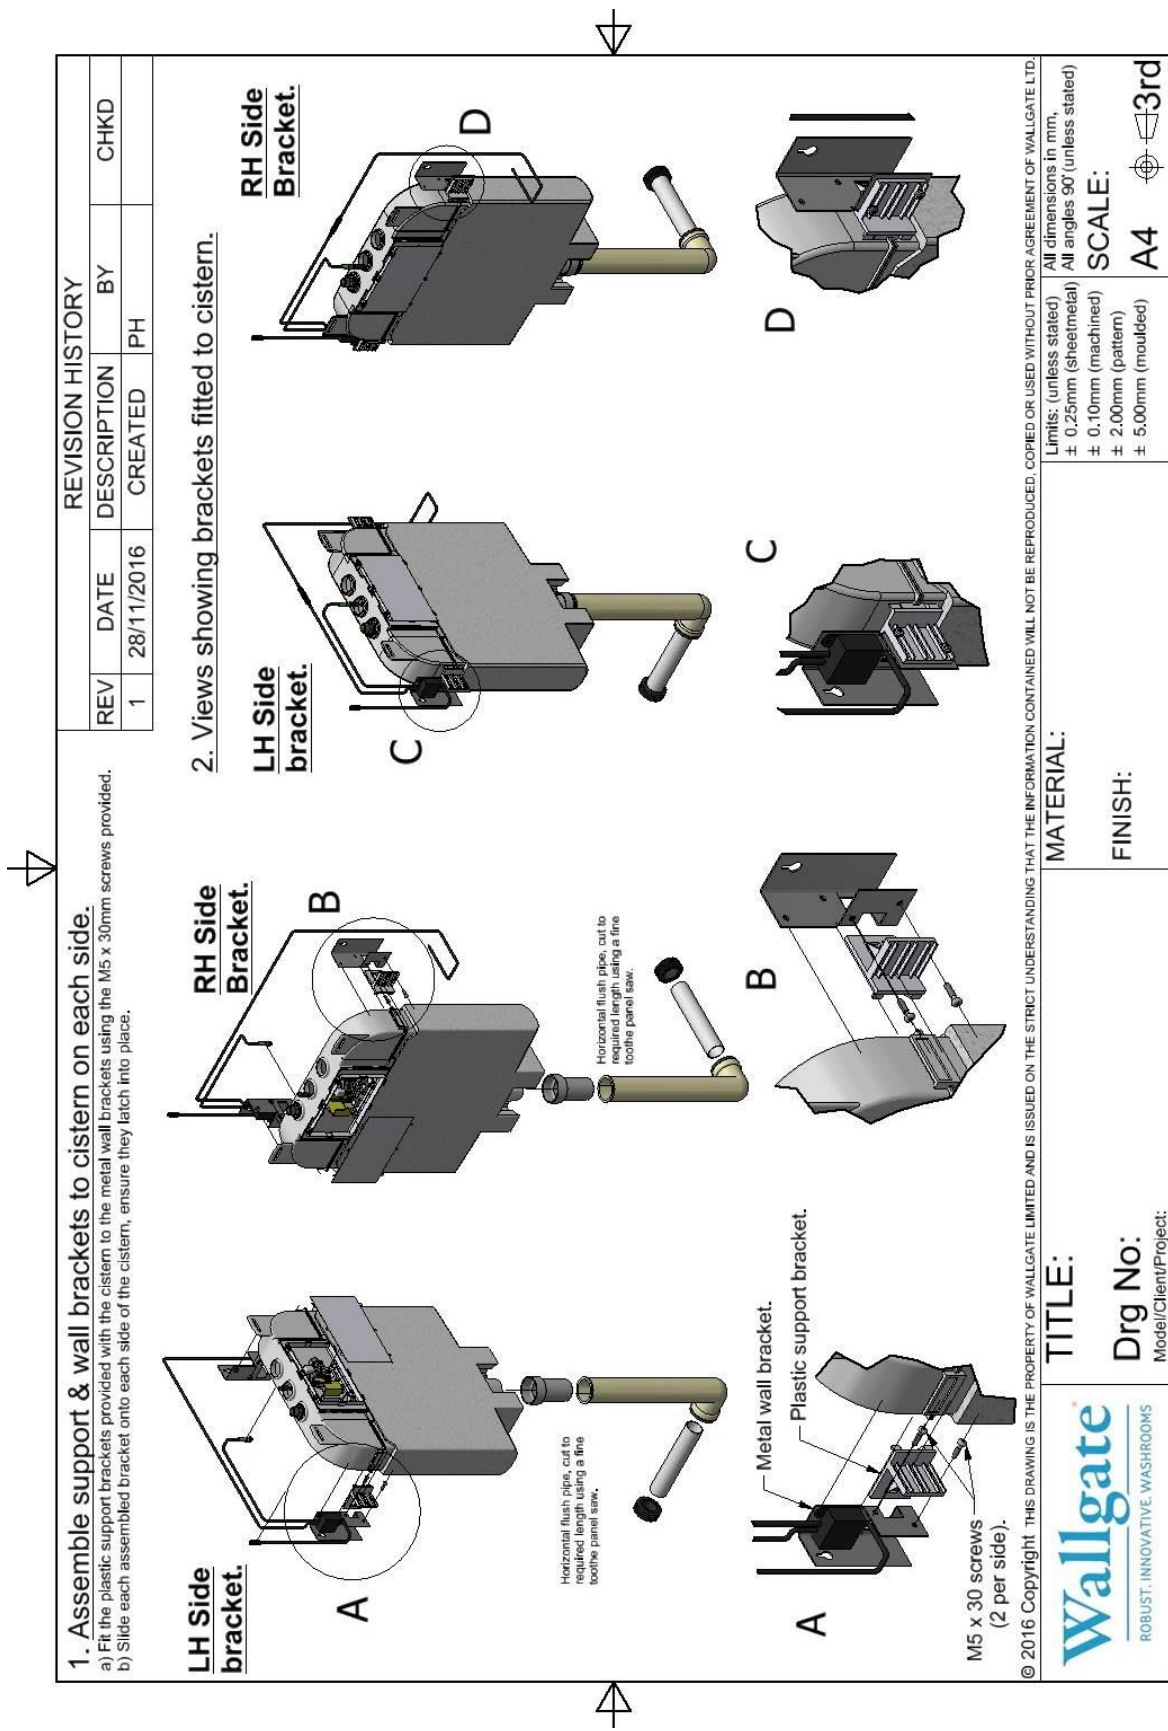

Fig: 3
1. Assemble the support and wall brackets and fit them to the cistern (Fig: 3).